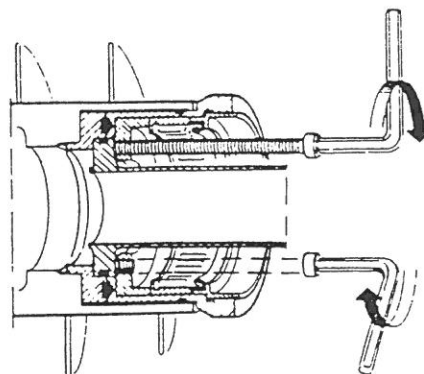

Figure 11
2. Using the jack screws, ease out the puller disk (4), shim (5), needle bearing outer race with needles (7a), lip seal ring (8), and seal lining (9) as shown in figure 11.